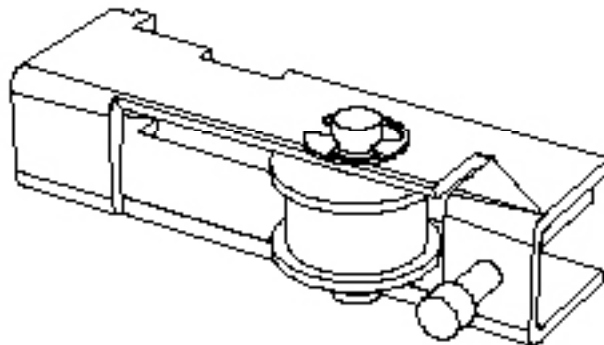

Fig. 5 - Belt tensioner assembly
- 2) Remove the left side cover of the machine. There are two (2) black phillips screws holding the cover to the left end plate in front, and back.
- 3) To remove the pinch wheel assembly, the left end plate must be removed. To do this, start by loosening the "Y" axis belt. With a 9/64" hex wrench loosen the belt tensioner on the left side of the machine. See fig. 5